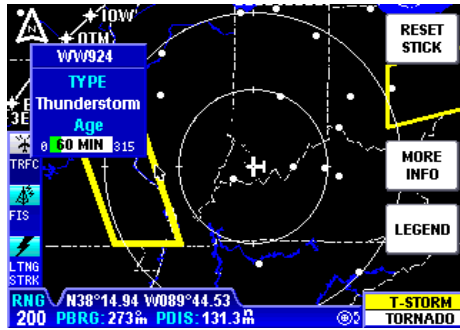

Figure 2-48
3. To view a specific Weather Watch, move the joystick in the desired direction and place the pointer on the desired Weather Watch border (see Figure 2-48). A box will pop up containing the Weather Watch designator, **TYPE** and the **AGE** of the report.